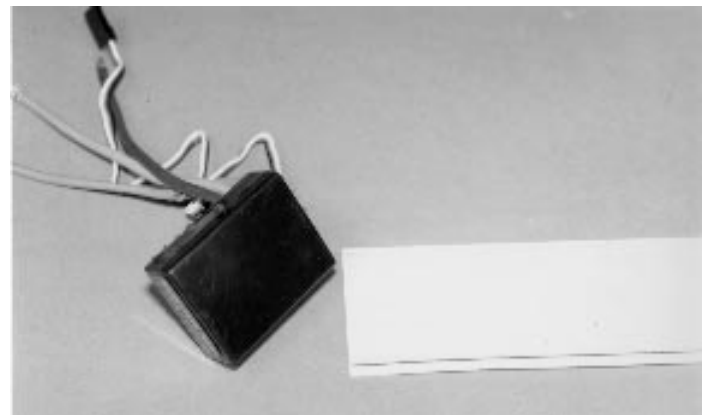
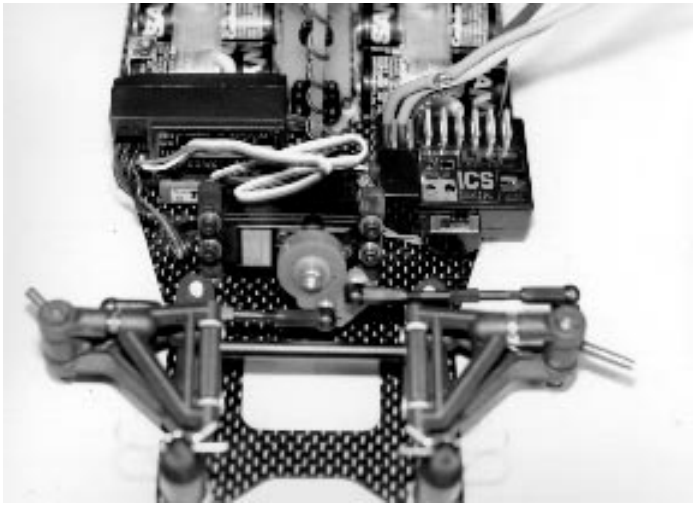
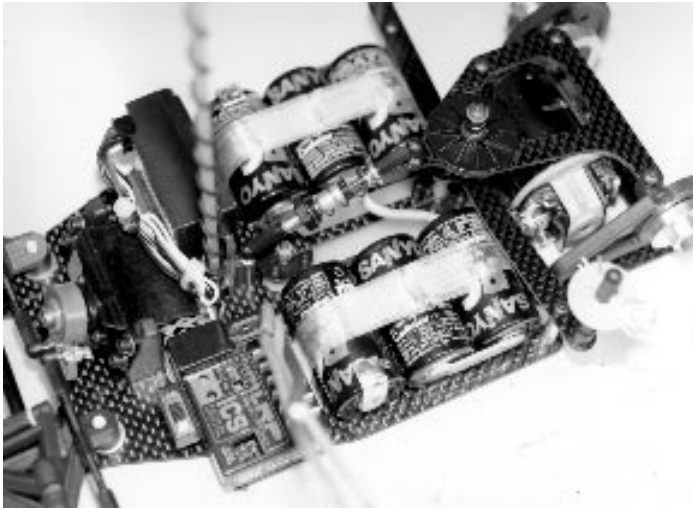

Fig. 91
Fig. 92
Fig. 93
□ Figs. 91, 92 & 93 Now cut another piece of servo tape to match the bottom of the speed control case. Attach the ESC to the chassis with the servo tape. Fig. 92 shows the proper location for our installation.
Now take the servo wire from the steering servo and plug it into channel #1 (rudd) of the receiver. Next take the servo wires from the ESC and plug it into channel 2 ("thro") of the receiver see fig. 92. You will find a small bag in the master kit bag which contains four #7709 4" electrical wire ties. You can use these to bundle the servo wires to clean up the wiring installation. Fig. 93 shows the servo wires bundled and secured with the wire ties.